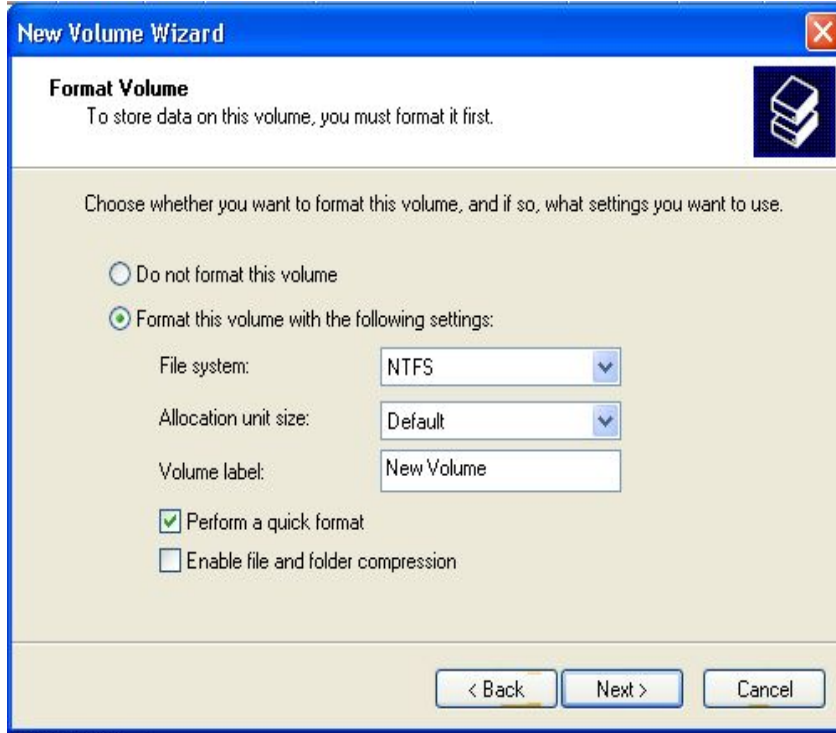

FIGURE 6-25. New Volume Wizard - Format Volume Screen.
4. The *New Volume Wizard - Volume Format* screen appears. As desired, change the “Volume label”. Make sure the “Perform a quick format” checkbox is checked. Click **NEXT >**. See Figure 6-25.